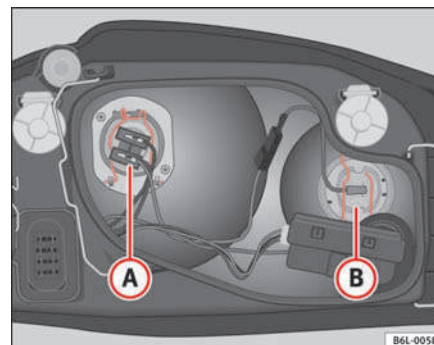

Fig. 143 Dipped headlight lamp
- Remove the lamp cable connector Ⓐ ⇒ fig. 143.